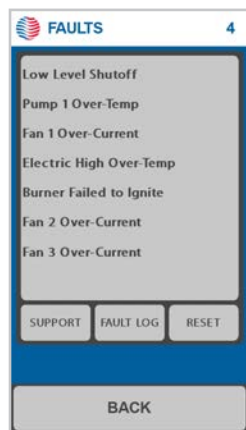

Figure 159
- Check the LCD screen for any faults (Figure 159)